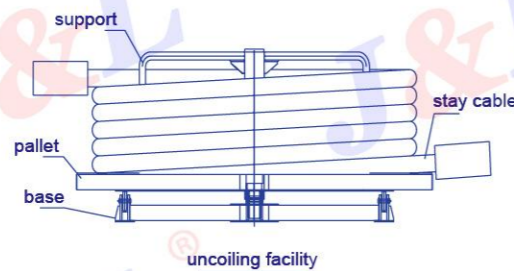

Figure 4
- 3. For the cables with diameter less than 50mm and length below 10m, it can be uncoiled directly by crane(keep sometime for releasing the stress after the uncoiling), for the longer cables with diameter over than 50mm, the special uncoiling is needed. See figure 4.